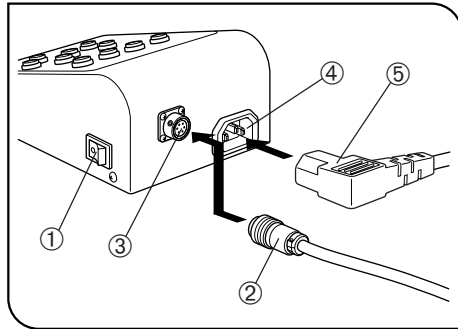

Fig. 5
(Figs. 5 & 6)
- ▲Make sure that the main switch ① of the SZX2-RHS is set to “○” (OFF) before connecting the power cord.
1. Insert the cable connector ② of the SZX2-ILR66 illuminator firmly into the OUTPUT connector ③ on the SZX2-RHS hand switch. (Fig. 5)
2. Insert the connector ⑤ of the power cord into the power cord connector ④ of the SZX2-RHS, and insert the power cord plug ⑥ into the power outlet ⑦.